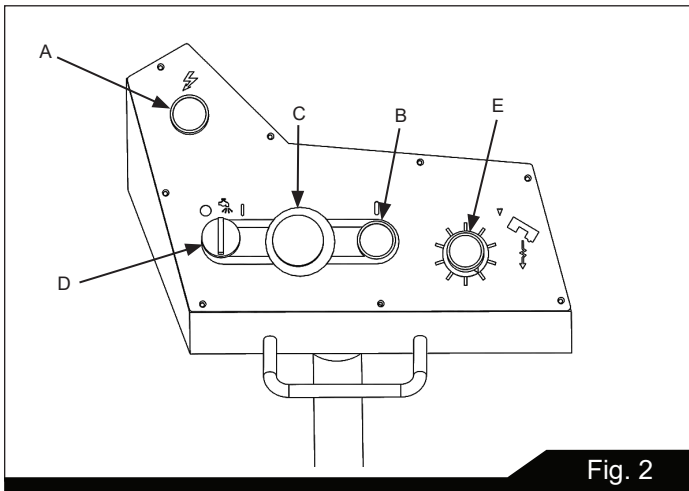

Fig. 2
Refer to Figure 2.
2. Turn feed rate control (E, Figure 2) counterclockwise until it stops.
6. Turn the machine on and if your machine is equipped with a coolant system, adjust coolant flow by turning lever (D) Fig. 2.
7. Turn the feed rate control (E) Fig 2, counterclockwise until the saw blade begins to lower the desired rate of speed.